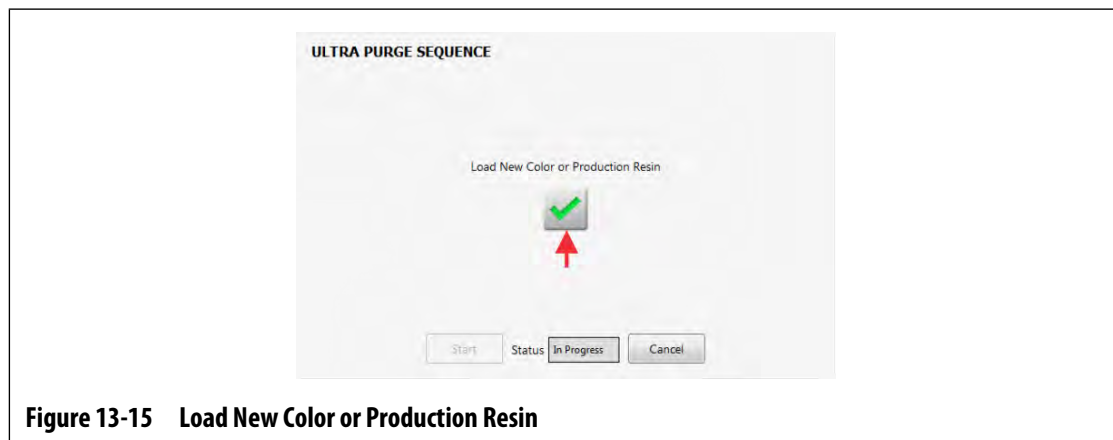

Figure 13-15 Load New Color or Production Resin
20. Load the new color or production resin into the IMM (Figure 13-15).